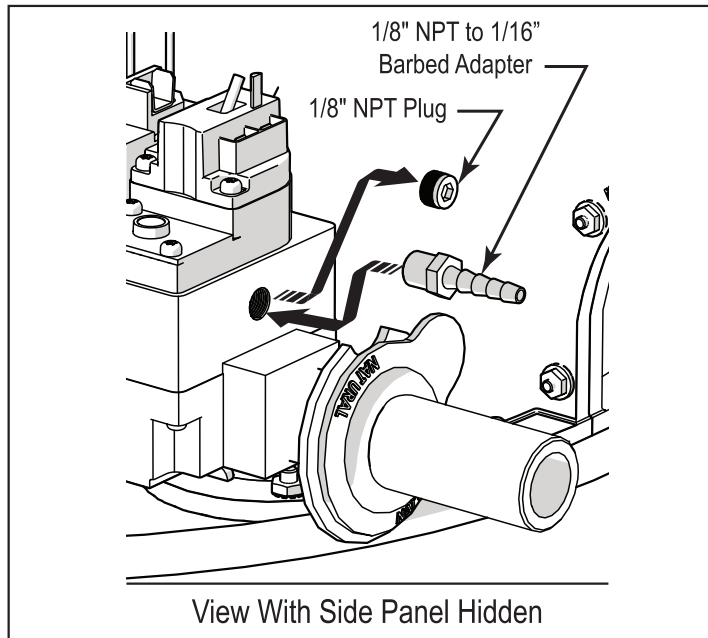

Figure 16. Remove NPT Plug and Insert Barbed Adapter
2. Remove the 1/8" NPT plug from the gas valve (Figure 16) using a 3/16" hex key.
4. Thread the male barbed adapter into the gas inlet port (see Figure 16) using a 7/16" hollow shaft nut driver.